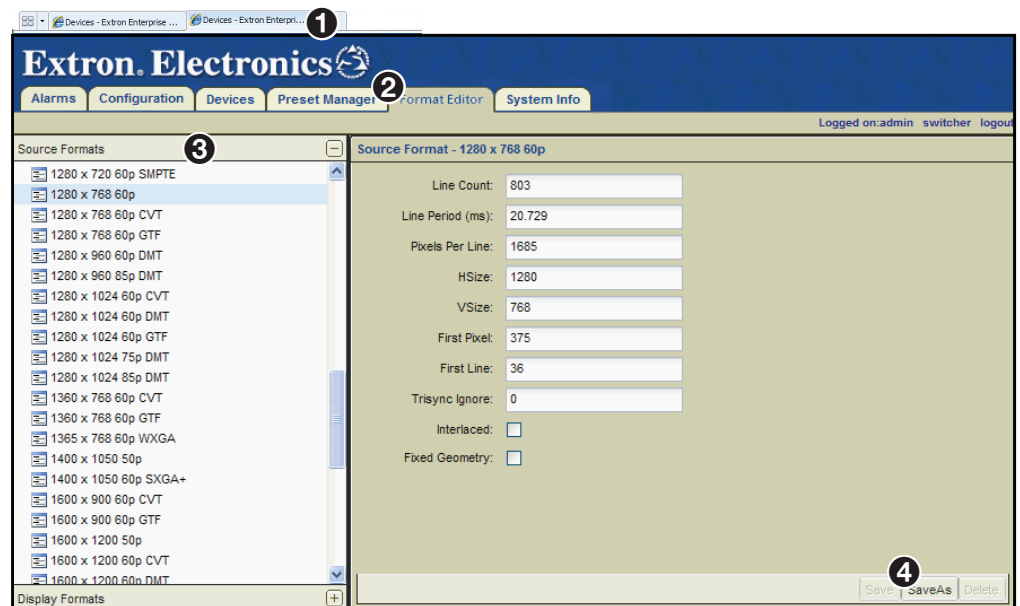

Figure 129. Source Format Editor Page (VN-Matrix 2xx Only)
15. Using the right tab (see figure 129, ①), select the **Format Editor** page (②).
16. Select an input mode from the list of source formats (③).